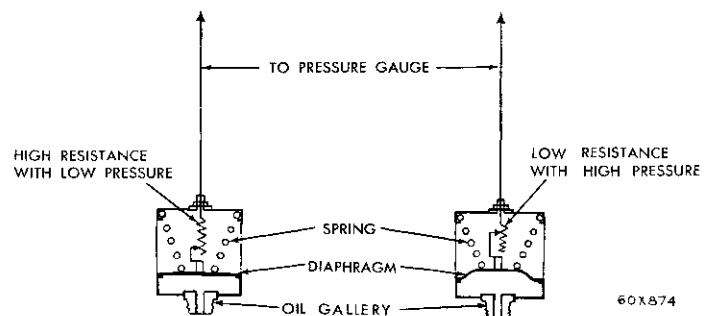

Fig. 62—Oil Pressure Sending Unit
**e. Oil Pressure Sending Unit (Fig. 62)**